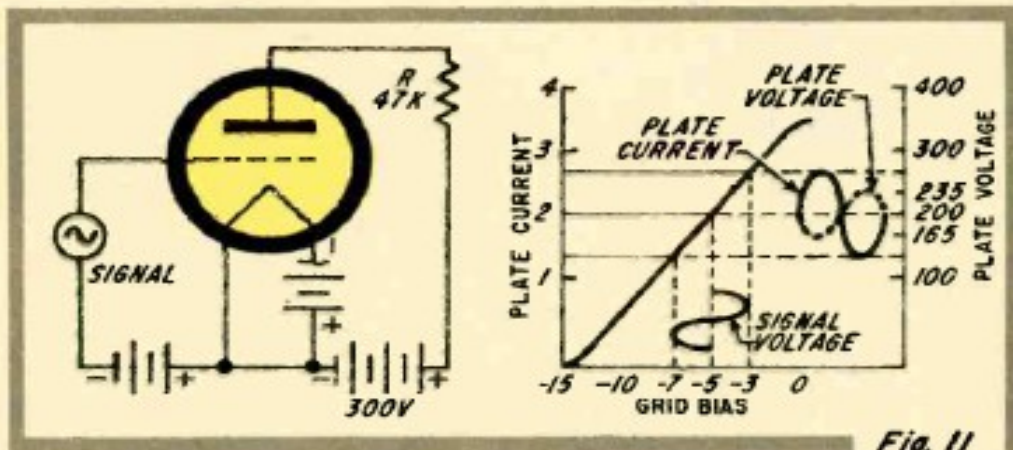

Fig. 11
**The Artful Amplifier.** Fig. 11 shows the basic circuit and operation of a *voltage amplifier*. Grid bias from the battery sets the no-signal plate current near the center of the straight portion of the *characteristic curve*. Current through R produces a voltage drop across it directly proportional to the plate current. Making the grid less negative increases the plate current and the voltage drop across R, but it also decreases the plate voltage. Making the grid more negative decreases plate current and voltage drop across R, but increases plate voltage.
Most interesting is the *amount* the plate voltage changes compared to the grid voltage change. Using Ohm's Law (Oh, come on now! You know about Ohm's Law!) to compute the voltage lost across R will convince you a change in plate current of only 1 milliamperere will cause a plate voltage change of 47 volts. In Fig. 11 a peak-to-peak grid voltage swing of 4 volts causes a peak-to-peak plate-current change of about 1.6 ma and a peak-to-peak plate-voltage change of 70 volts. The output signal is a curve-by-curve mirror-image of the input signal, but it is 17½ times greater!